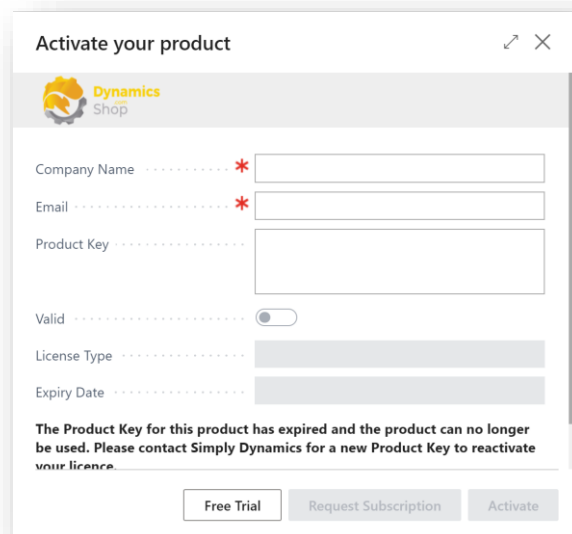

Figure 3-10
1. In the **Activate your Product** page (Figure 3-10):